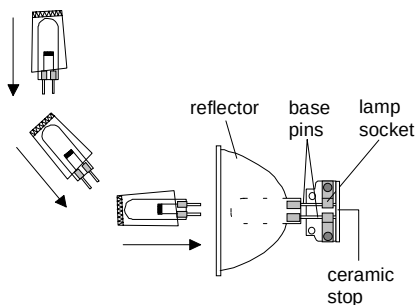

Figure 3-4. Installing a new lamp
7. Holding the lamp by its wrapper, insert the lamp in the reflector until the base pins extend through the rear opening of the reflector (see Figure 3-4). Continue guiding the lamp until the two base pins are firmly seated in the lamp socket and touching the ceramic stop (see Figure 3-4).